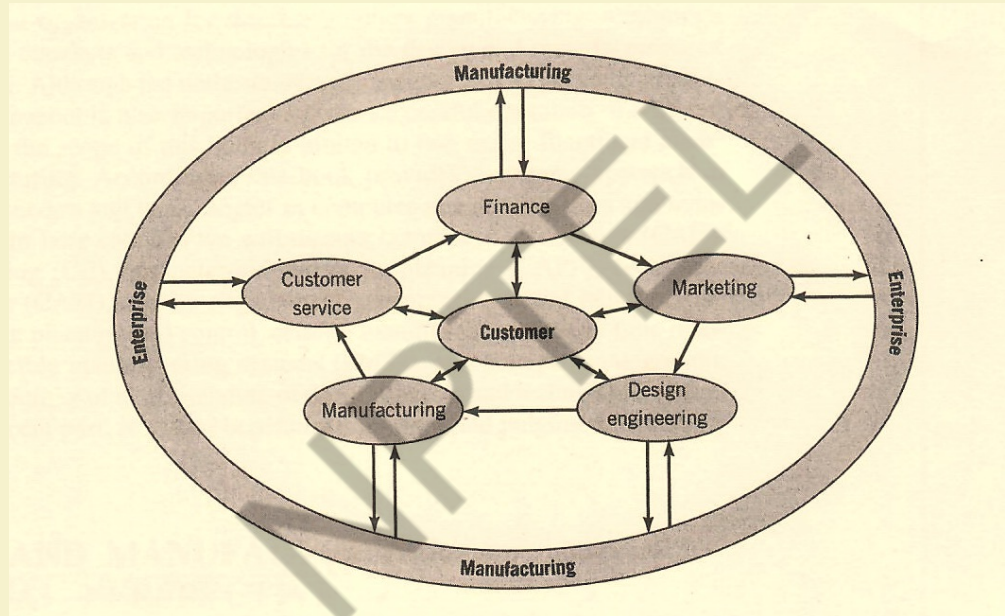

Fig 1. Customer and Manufacturing Enterprise
- Figure 1. shows how customers play a pivotal role in defining the manufacturing enterprise. Corporate objectives are growth in market share, profitability, work force stability, and other financial measures.